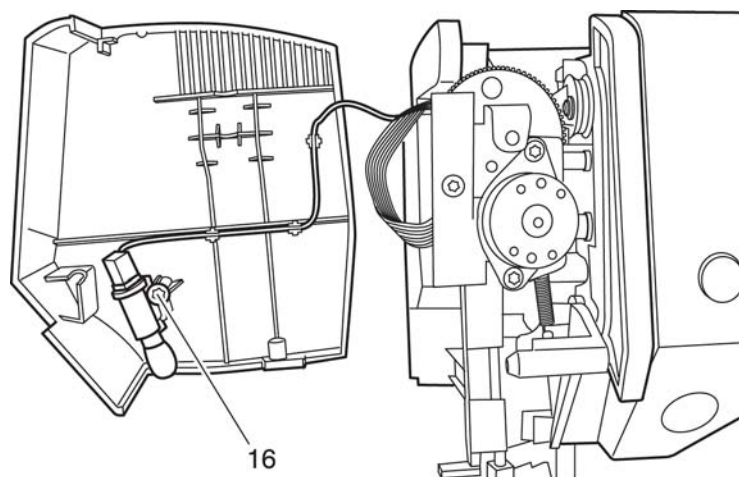

Fig. 48
- Carefully set down the top cover to one side, complete with sewing light and lead (Fig. 48).